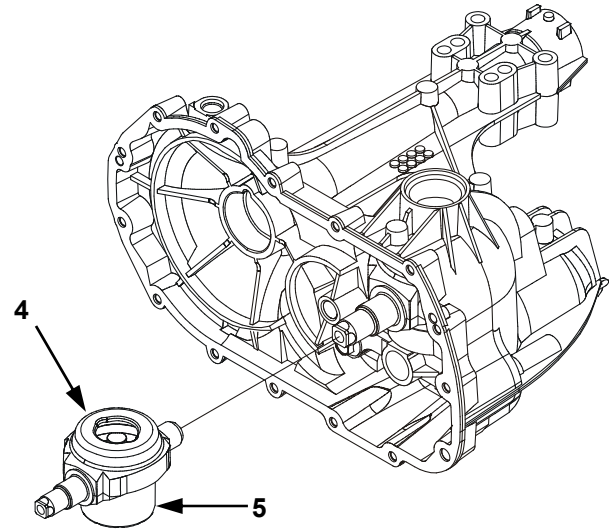

Figure 15
9. **(See Fig. 15)** Remove the swashplate (4) and pump cylinder block (5) as one assembly. NOTE: *Removal will be aided by applying a small amount of pressure on the trunnion mounted swashplate towards the center section. Also note that the control arm (18, Page 32) may be loosely assembled at this point to assist in swashplate removal. While gently removing the swashplate and block assembly, keep the block face flush with the center section to minimize damage to the running surface.*